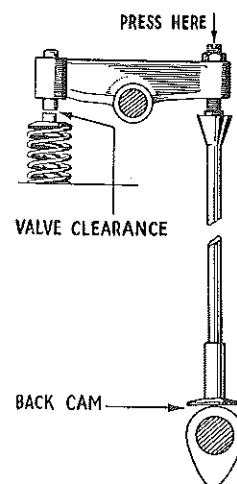

Fig. 10. CHECKING TAPPET CLEARANCES
1. Turn the flywheel until the tappet rests on the dwell of the cam (see Fig. 10).